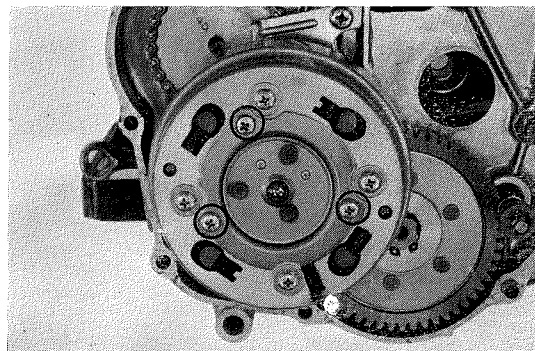

Fig. 39 Clutch outer cover removal
3. Unscrew three 5 mm screws to remove the clutch outer cover. (Fig. 39)